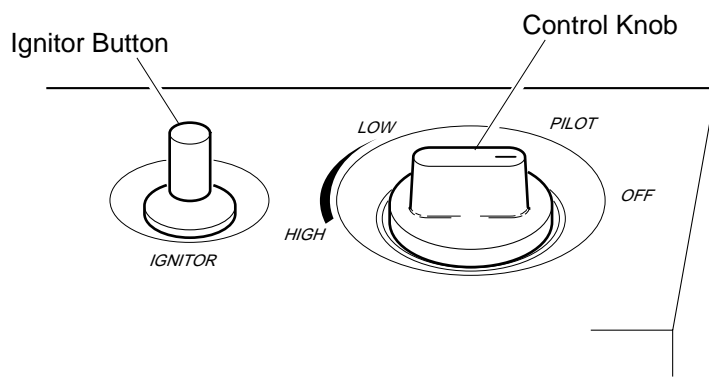

Figure 15 - Control Knob In The OFF Position
4. Wait five (5) minutes to clear out any gas. Then smell for gas including near the floor. If you smell gas, **STOP!** Follow “B” in the safety information at the top of page 17. If you don’t smell gas, go to the next step.
5. Press in control knob and turn counterclockwise ↺ to the **PILOT** position. Keep control knob pressed in for five (5) seconds (see Figure 15, page 17).